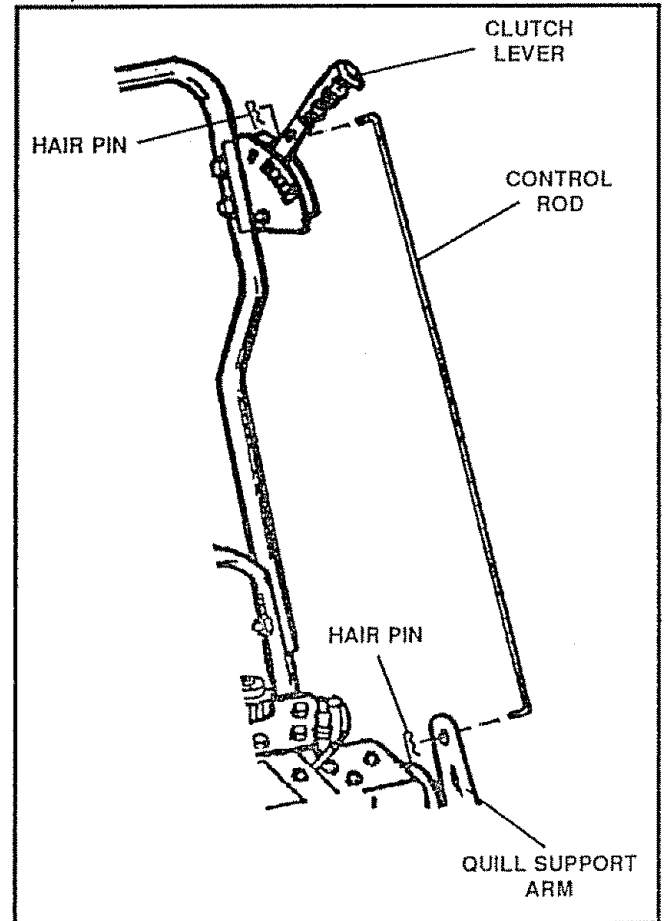

FIG. 4
- Insert one end of the control rod through the hole in the clutch lever (See Fig. 4) and attach with a hair pin (found in the parts bag).
- Place the clutch lever in the first depth selection and insert the other end of the control rod through the hole in the quill support arm (See Fig. 4). Attach with hairpin (found in parts bag).